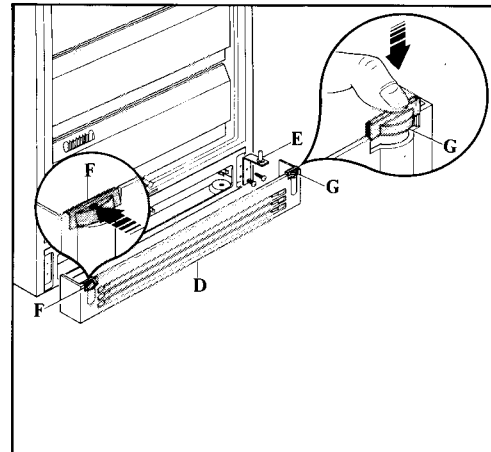

Fig. 4
Remove the ventilation grill (D-Fig. 4).
Unscrew the bottom hinge (E-Fig. 4).
Screw down the bottom hinge (E-Fig. 4) on the opposite side by using the screws previously removed.
Detach the plug (F-Fig. 4) from the ventilation grill (D). To do this, press it in the direction of the arrow.